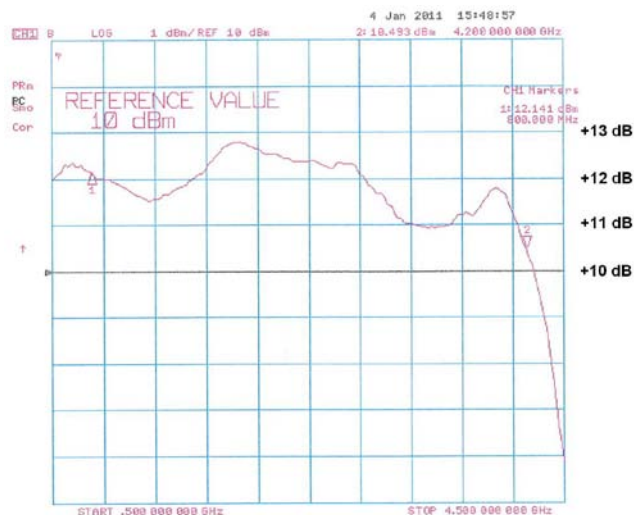

Figure 4-4. Typical Quad Amp Response
- If the gain is slightly low (i.e., several dB below typical), try disconnecting the inputs from the A9 through A16 Quad Amps one at a time, then reconnect them. Note the difference in response when disconnecting the Quad Amps; if any Quad Amp causes less of a change in gain than the others, check the Quad Amp, coaxial cable, and so forth associated with that Quad Amp. Typical Quad Amp Response is shown in Figure 4-4.